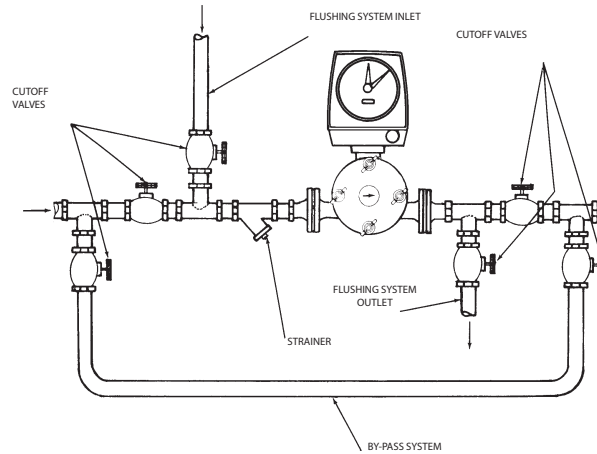

Figure 2: Installation configuration
5. In metering applications involving abrasive materials, slurries, or liquids that may leave a residue or buildup of deposits, a meter by-pass and flushing system should be incorporated into the facility piping installation to permit periodic clean-out of the meter. *Figure 2* illustrates a typical meter installation incorporating a bypass and flushing system.
NOTE: Always install meter in such a way that round cover is on a vertical plane, as shown on "Figure 2".
If the facility piping arrangement includes a meter bypass and flushing system (see "Figure 2"), shut off fluid flow to the meter and flush interior of meter housing with clean water to remove any buildup of deposits or corrosion. If a bypass and flushing system is not included in the metering application, remove the meter housing cover and inspect the measuring chamber, piston and associated parts for any buildup of deposits or corrosion. Clean and flush parts with water or a suitable solvent that will not adversely affect the plastic components.